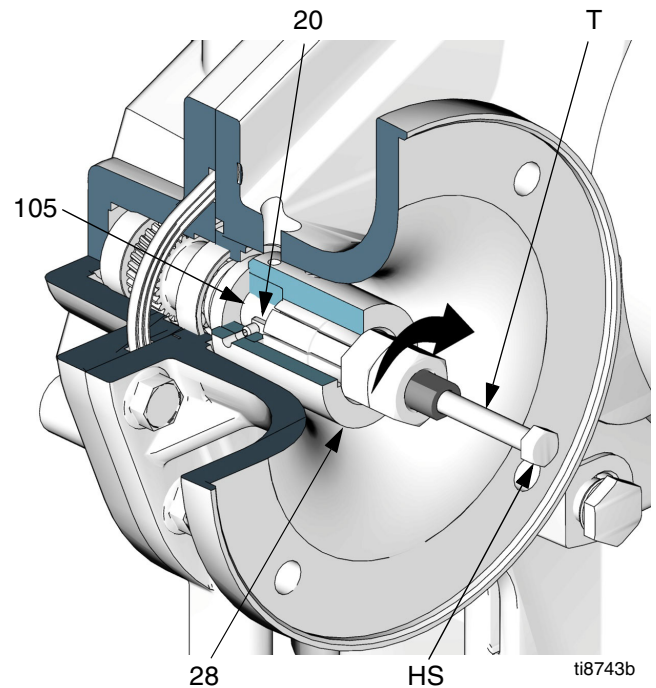

Fig. 22. Motor Coupler Removal
4. See FIG. 22. Loosen both setscrews (31). Insert the coupler removal tool (T) into the coupler (28). Turn nut clockwise until tight, then pull the coupler off the gear reducer input shaft (105) by turning hex-head screw (HS) clockwise.
NOTE: During the following procedure, if the coupler becomes separated from the motor shaft but remains stuck on the input shaft, use the 15J827 coupler removal tool (T) as shown in FIG. 22.